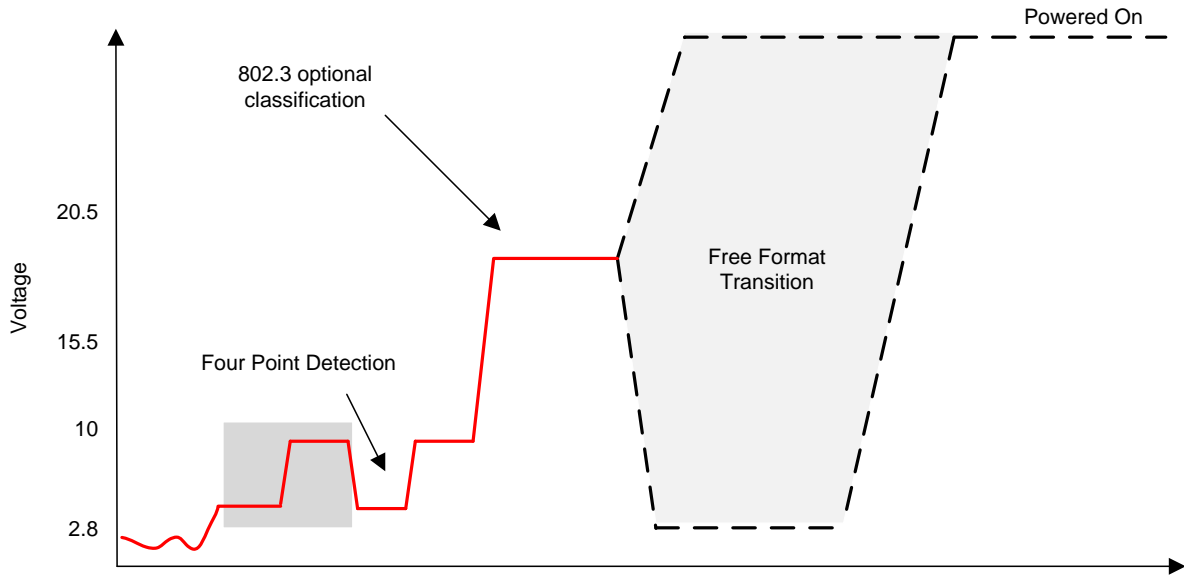
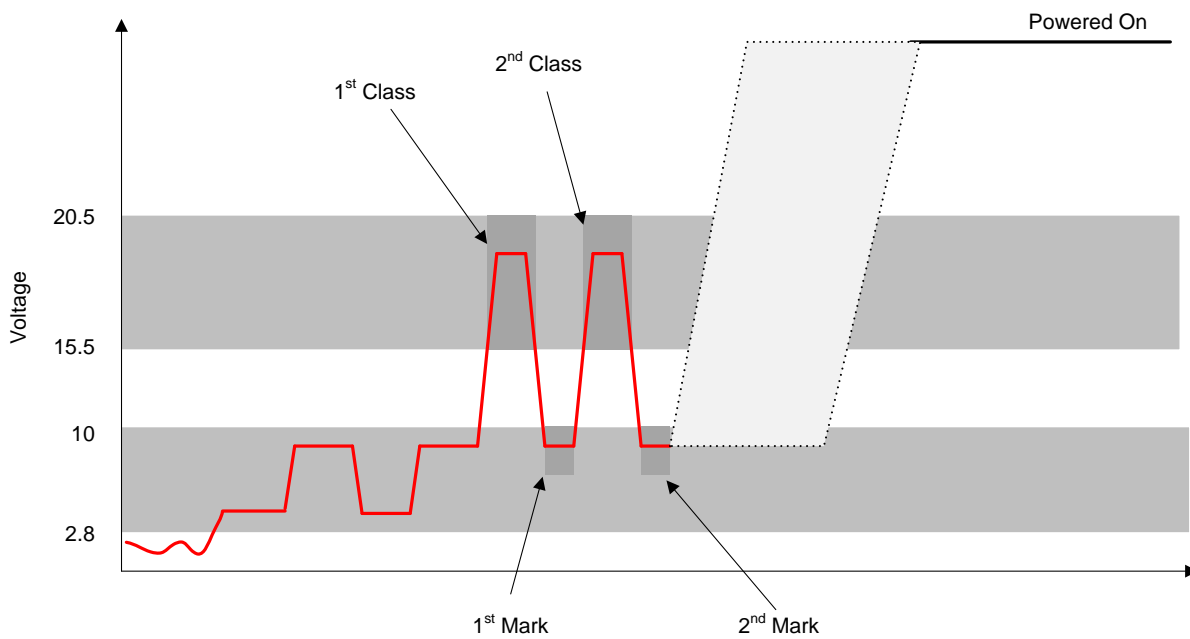

Figure 36. 802.3af with Classification
Figure 37. P802.3at with Classification
See Figure 36 and Figure 37 for illustrations of the voltage on the Power Interface (PI) during single-event (802.3af) and 2-event (802.3at) classification.